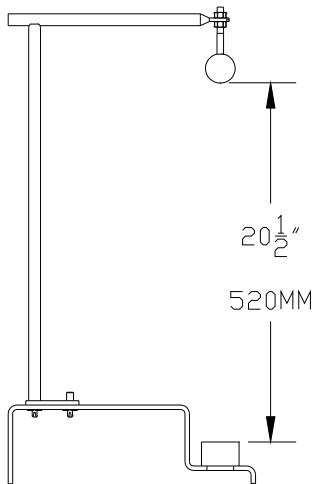

Figure 24: Distance from Ball Target to Mounting Ring
3. Loosen the nuts holding the ball target and adjust until the bottom surface of the ball is 20.5" from the sensor mounting ring. (**Figure 24**)